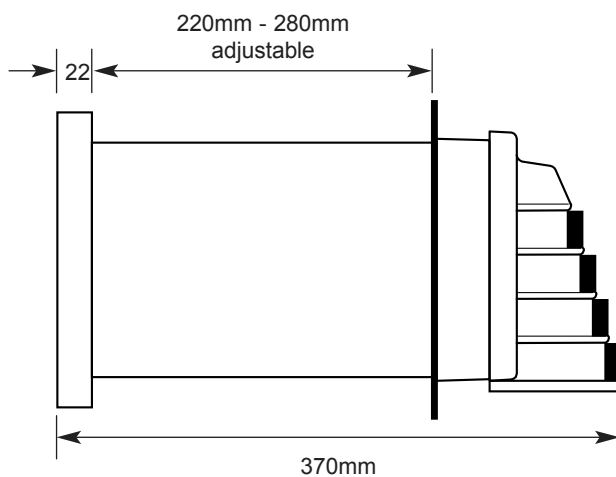

Fig. 3
1. The unit is designed for installation in external walls with a thickness of up to 280mm (Fig. 3). For wall thicknesses above 280mm, an extension kit must be used.